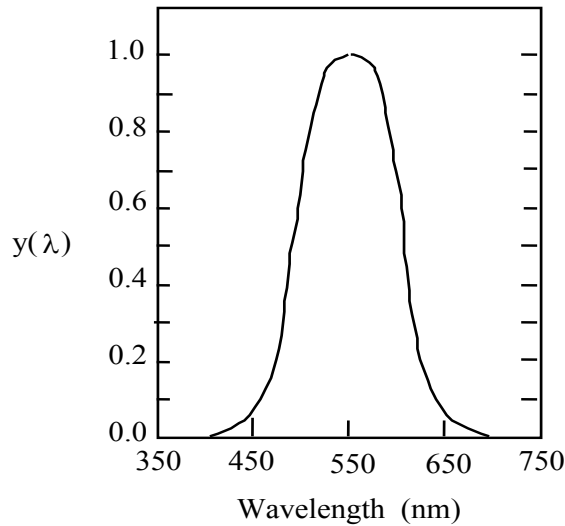

Figure 6.3 Standard luminosity function
The lumen (lm) is a measure of the total light power emitted by a source. You might then expect that there is a conversion factor between lumens and Watts, and you would be right: its value is 683 lm/Watt. However, things are a bit more complicated because this conversion factor is only correct for light with a wavelength of 555 nm, the yellow-green color that our eyes are most sensitive to. For other colors the conversion factor is multiplied by a dimensionless number  $y(\lambda)$  called the photopic standard luminosity function (an Excel file with a tabulation of this function can be found on our web site). A rough plot of  $y(\lambda)$  is shown in Figure 6.3. The point of this is that two sources described by the same number of lumens (the same “luminous flux”) will have the same subjective brightness to a human observer. This kind of color corrected unit is very helpful if you want to design a control panel with lots of colored lights, and you want them all to have the same perceived brightness. To summarize, if the luminous flux of your source is described as  $F$  lumens, then you convert this to Watts using this formula:
- (A) (1 point) Estimate the sensitivity  $S_\lambda$  (in units of  $\mu\text{A}/(\text{mW}/\text{cm}^2)$ ) of the PD204 photodiode to the fluorescent lights in the lab. See the photodiode data sheet posted on the course web site. You will have to estimate the mean wavelength of the white fluorescent lights. See Figure 6.3, and assume that the lights do not emit much radiation that is outside the wavelength range visible to the eye and inside the wavelength range that the photodiode can sense.